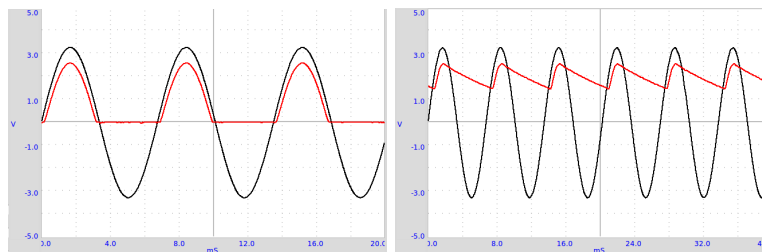

Figure 4.1: (a) Half wave rectifier input and output.(b) With capacitor filter.
**Observation** The negative half is removed by the diode as shown in figure 4.1(a). Also notice that the voltage in the positive half is reduced by around 0.7 volts, the voltage drop across a silicon diode. A load resistor is required for
The effect of a capacitor is shown in figure 4.1(b). We can see that the capacitor charges up and then during the missing cycle it maintains the voltage. The remaining AC component is called the ripple in the DC.